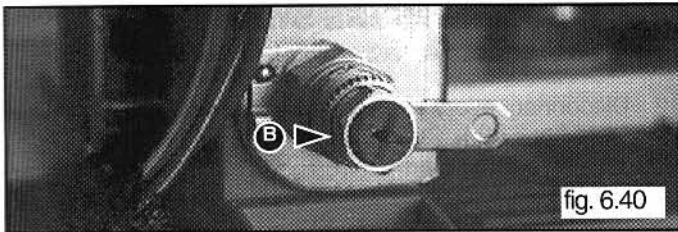

fig. 6.40
- 4 With a 14 mm spanner turn the cartridge "B" counter-clockwise (see fig. 6.40);